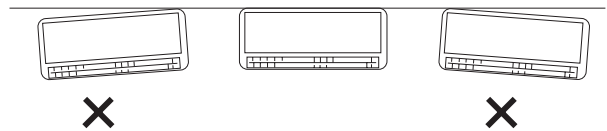

Fig. 2-163
- (2) Double check with a carpenter's level or tape measure that the panel is level. This is important to install the unit properly. (Fig. 2-163)
- (3) Make sure the panel is flush against the wall. Any space between the wall and unit will cause noise and vibration.